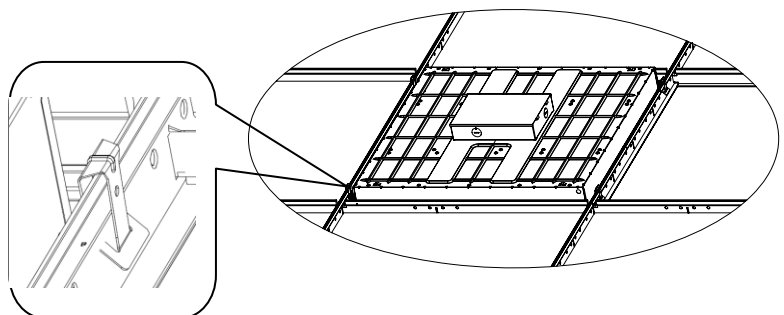

Fig.3
- Insert the troffer into the ceiling grid, attach the earthquake clips to the ceiling grid. (Fig.3)